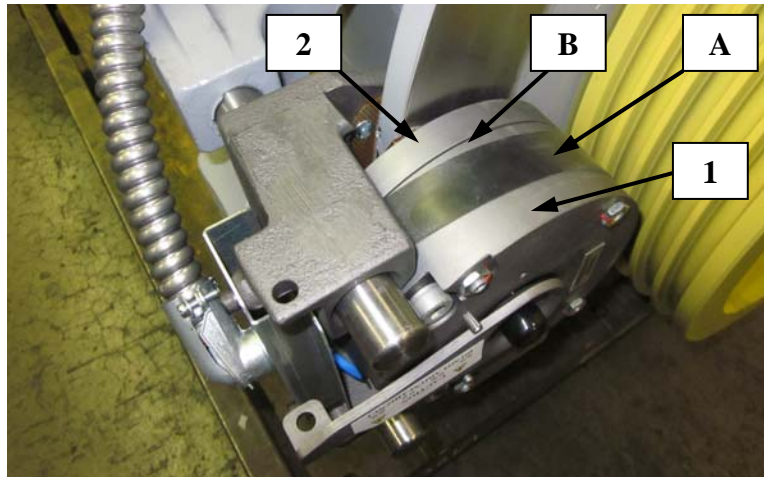

Figure 16
- Move rubber dust shield “A” to expose Air Gap “B”. See Figure 16